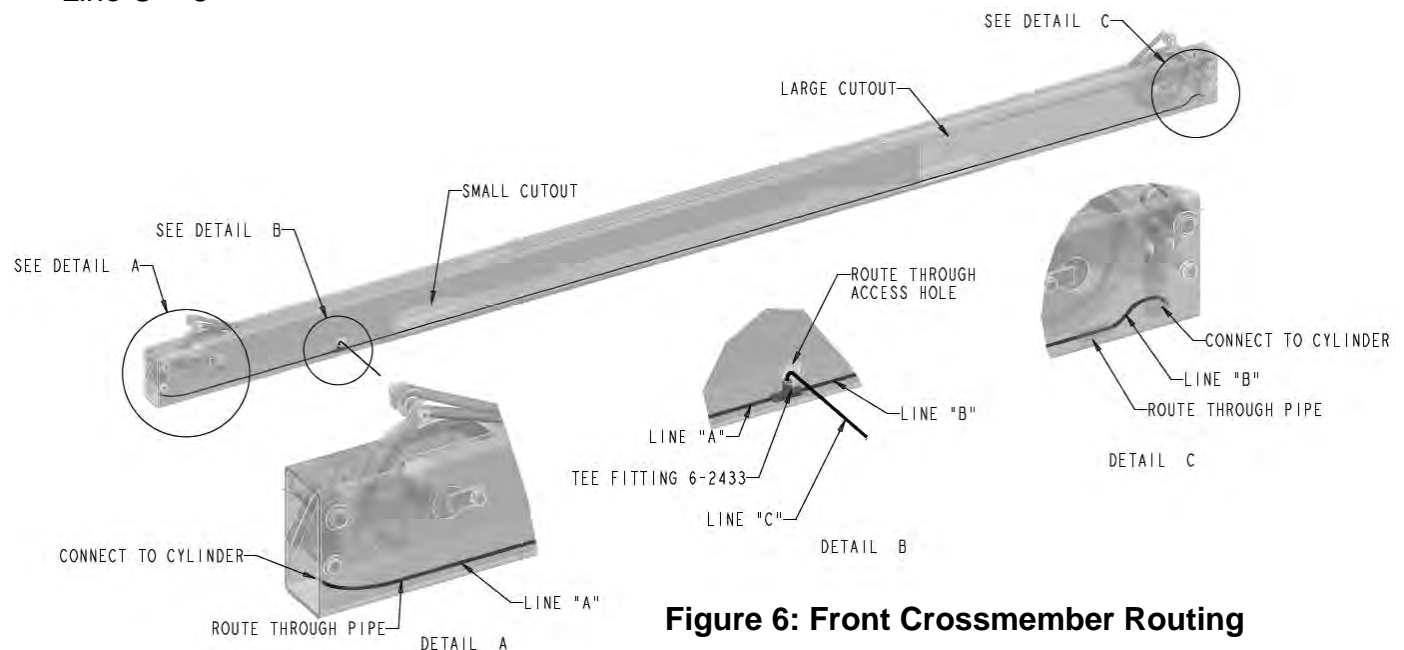

Figure 6: Front Crossmember Routing
3. **Refer to Figure 6.** Connect one end of "Line A" to the Tee fitting. On the opposite end of the tee fitting, connect "Line B". Connect "Line C" to the remaining port on the tee fitting.